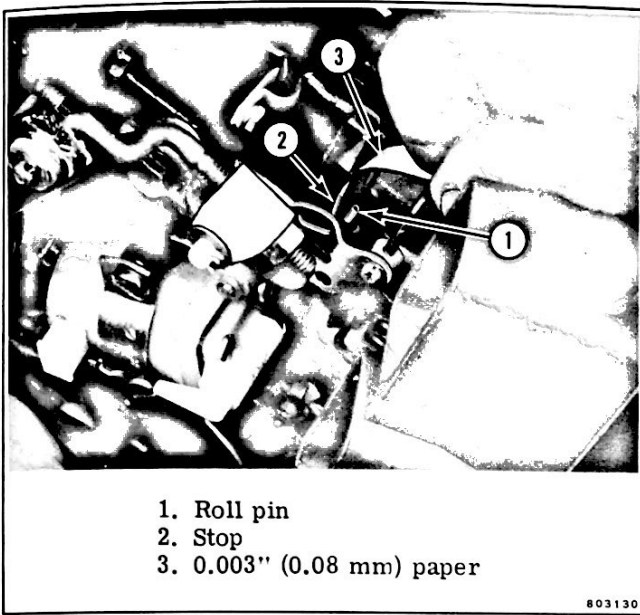

Figure 2-12. Wide Open Throttle Stop Adjustment
a. Open throttle to wide open position (center carburetor throttle shaft roll pin against its stop). **ADJUST WIDE OPEN THROTTLE STOP SCREW THAT THROTTLE VALVES ARE FULL OPEN WITHOUT STRAIN ON THROTTLE SHAFT.** Figure 2-12.